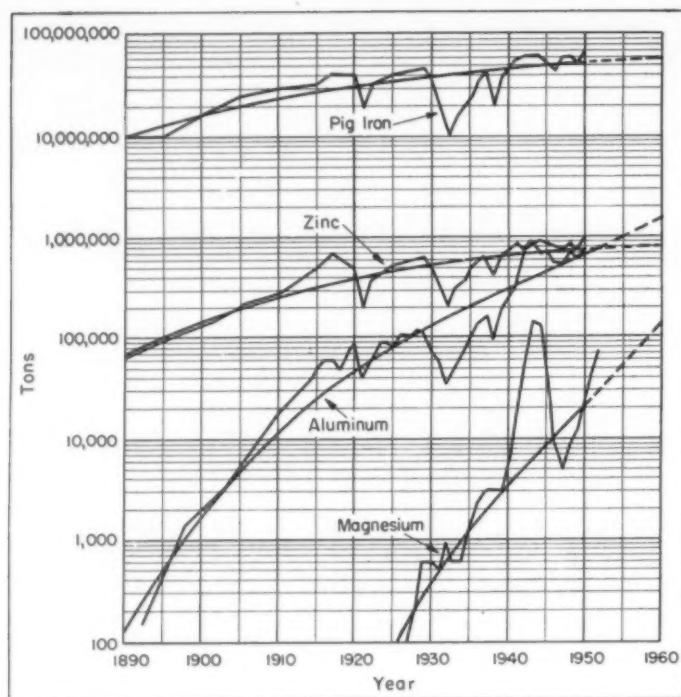

Fig. 11—Consumption of several primary metals in tons per year
**PROGRESS** in the development of new alloys, fabrication of wrought products, joining, and allied techniques have all played an important role in making magnesium one of the common structural metals. Growth curves of four major metals are shown in Fig. 11. At the present rate of growth it is anticipated that consumption of primary magnesium shall have reached a total of at least 100,000 tons per year by 1960. A factor in the growth of magnesium is the abundance of a source of supply for the metal. Magnesium ores such as magnesite and dolomite are widely distributed and in large supply. And the ocean contains a virtually unlimited supply of magnesium.